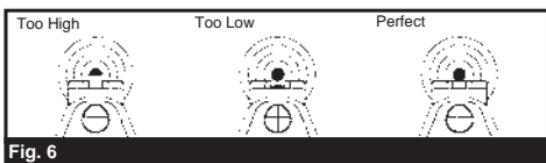

Fig. 6
- The air pistol is correctly aimed when the front sight blade is positioned exactly in the notch and even with the rear sight. The top of the front sight blade should be even with the top of the notch in the rear sight. The bullseye should appear to rest on the top of the front sight (See **Fig. 6**).